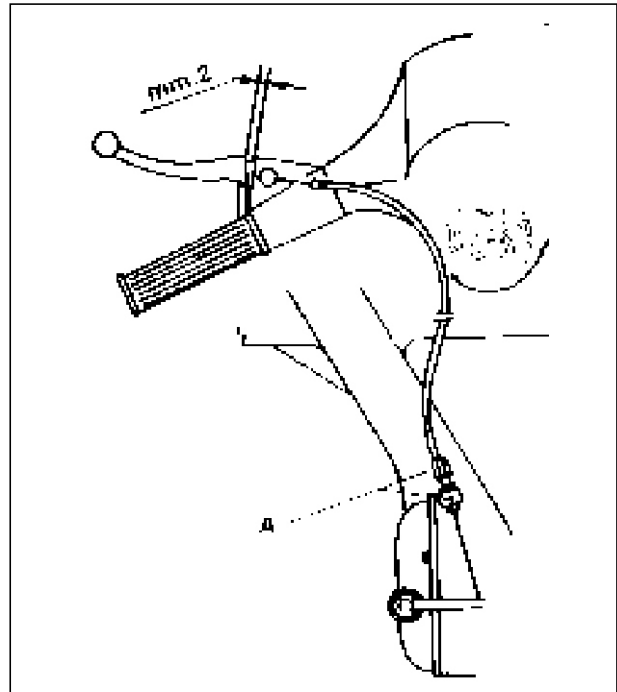

Fig.101-Gear control cable
- (c) Then tighten the lock nut. (fig.101)